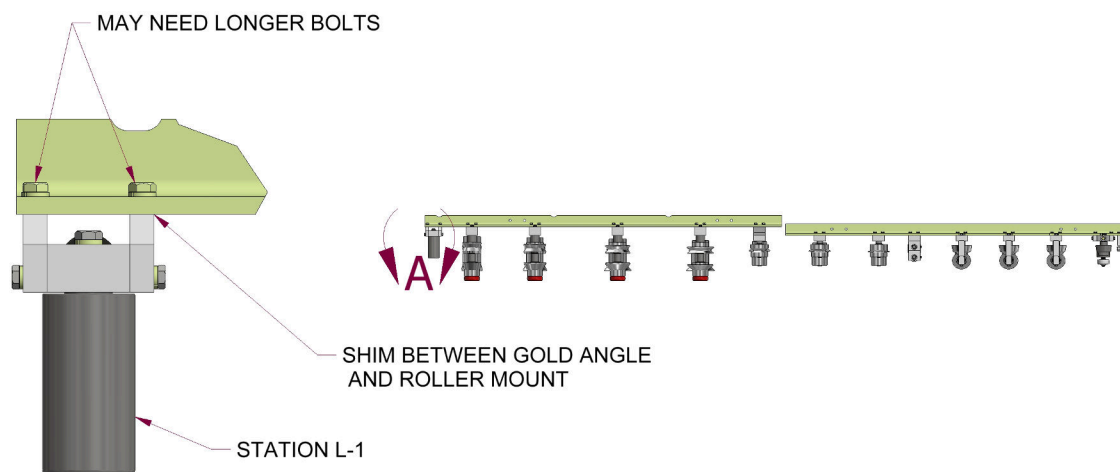

Figure 44: Shim Placement
6. Unbolt Station L-1 and add the shims calculated above. Bolt the station back to the rail. (Longer bolts may be needed) Figure 44.